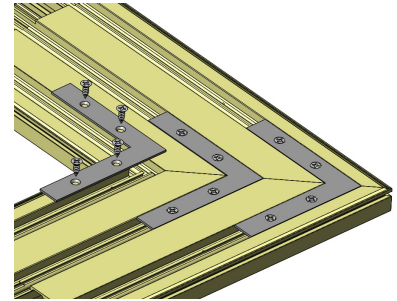

Figure 16:
1. Remove the “L-Shaped” braces and Screw #8 FHP - A - UC, 1/2”, SS, Clear from the frame pack. There should be (4) screws per brace (Figure 16).